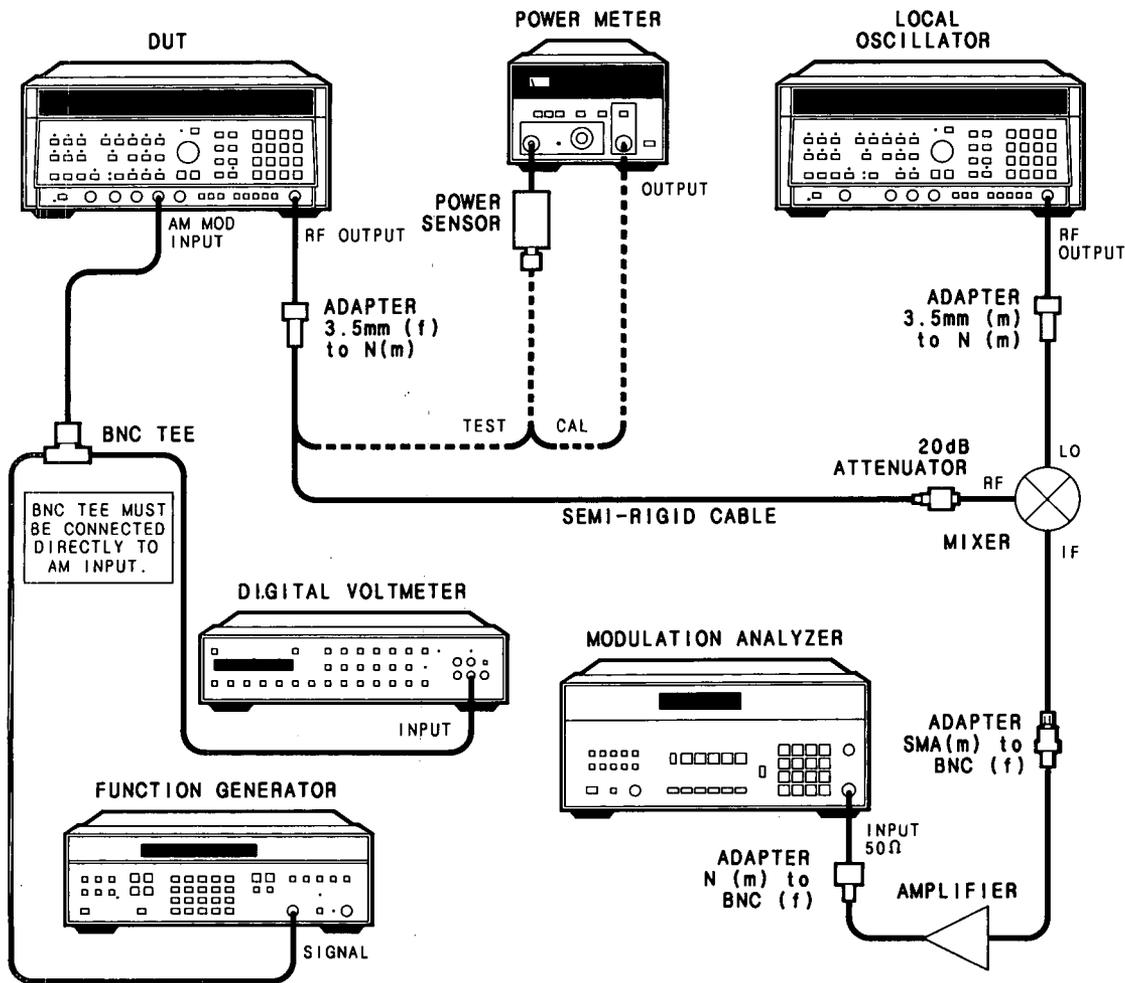

Figure 4-18. Amplitude Modulation Test Setup
1. Connect equipment as shown in Figure 4-18. Connect the mixer LO port at the LO's RF output. Connect the power sensor to the power meter. Allow a one hour warm up time. Set the power meter's calibration factor switch to include 1.5 GHz, then zero and calibrate the power meter. Connect the power sensor to the DUT's RF output.